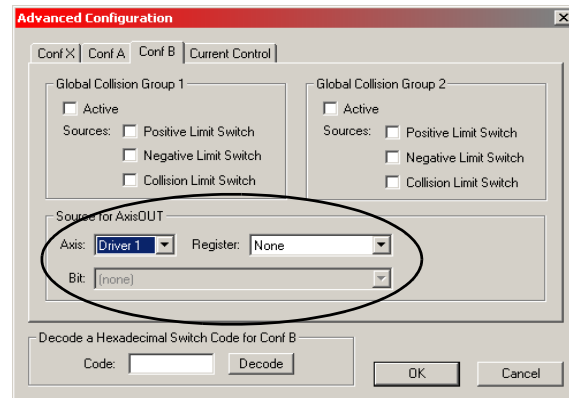

Figure 4.16 - Motorized Drives section – TH-Tube – Advanced Configuration
5. Also check the settings of the logical axis TH-Tube in the same way. The parameters for “Sources for AxisOUT” must look like Figure 4.16.